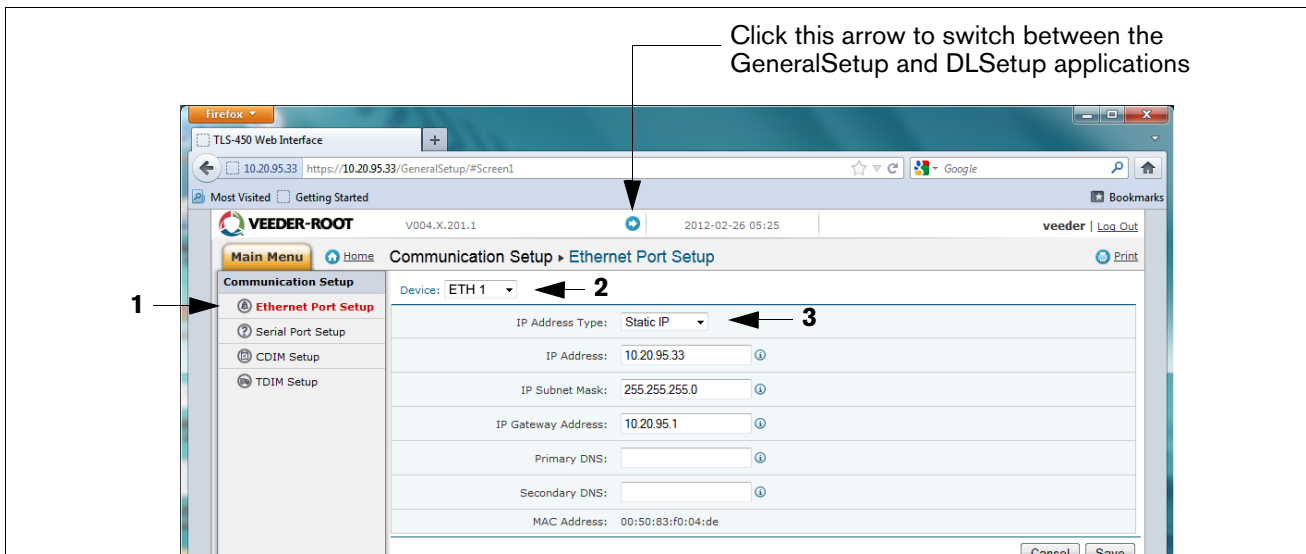

Figure B-4. Ethernet Port Setup
NOTE: The Datalogger simultaneously runs two applications; one programs the general communication protocols (GeneralSetup), and the other programs how the Datalogger gathers its information (DLSetup). Pressing the blue arrow at the top middle of the screen will toggle you between the two programs (see Figure B-4). After entering selections/changes to fields on any page, click the Save button to save your entries, or Cancel to discard them. Programming screens used to setup the Datalogger are listed in Table B-2.
7. On the "Communication Setup" page (see Figure B-4), click on "Ethernet Port Setup" (1) and select the Device type "ETH 1" (2) from the drop-down menu. In the IP Address Type field (3):
If the site is using a static IP address, select "Static IP"; and enter the IP address assigned by your network administrator. Once this is complete, click the "Save" button to keep these settings (see example in Figure B-4).